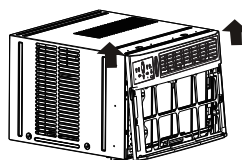

Fig.3A
5. Gently lift front panel off unit(see Fig.3A).